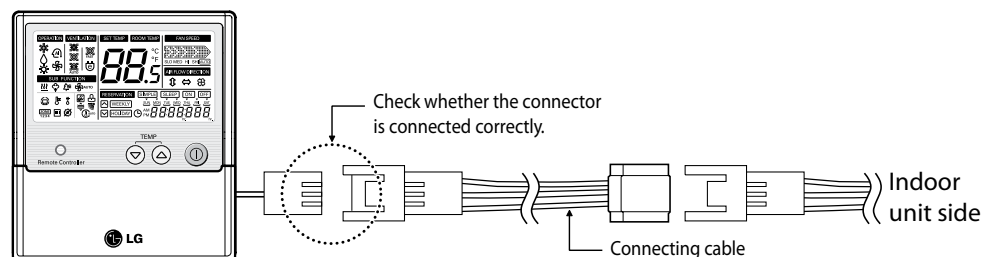

Figure 22: Zone Controller Cable Installation
2. Refer to Figure 22. Each zone controller is supplied with 30 feet of communications cable with a male or female plug-end. Route the cable between the zone controller location and the indoor unit. If the distance between the zone controller and indoor unit exceeds 30 feet, purchase an LG zone controller communications extension cable (32 feet, Model No. PZCWRCG3). This extension cable has a female connector on one end and a male connector on the other.